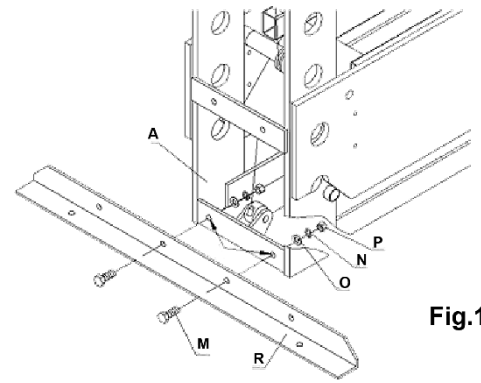

Fig.1
11.1.1 Disassemble the hex bolt M12*30(M), washerM12(O), spring washerM12(N), hex nut M12(P) from part A of the press frame body. Then assemble the base to the body frame by the above parts. (refer to Fig 1)